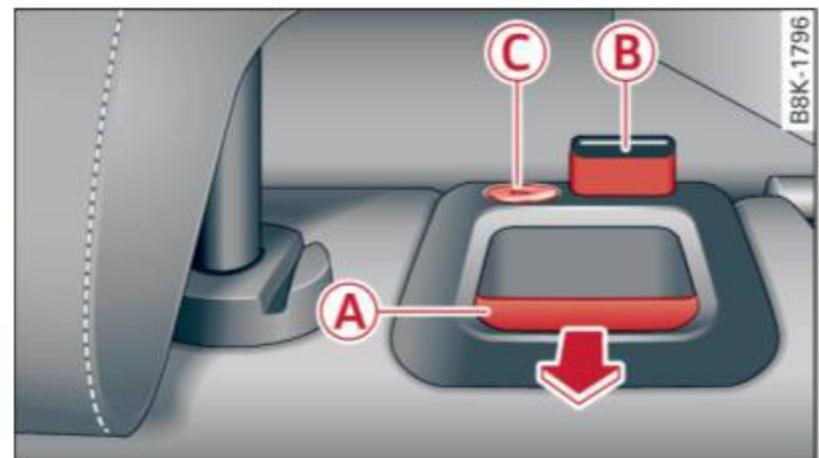

Fig. 76 Backrest: release lever, securing knob and latch*
- ▶ Pull the release lever (A) ⇒ fig. 76 in the direction of the arrow and fold the backrest forward.
⇒ page 34 © ⇒ fig. 76. This prevents any access to the luggage compartment from the vehicle interior.